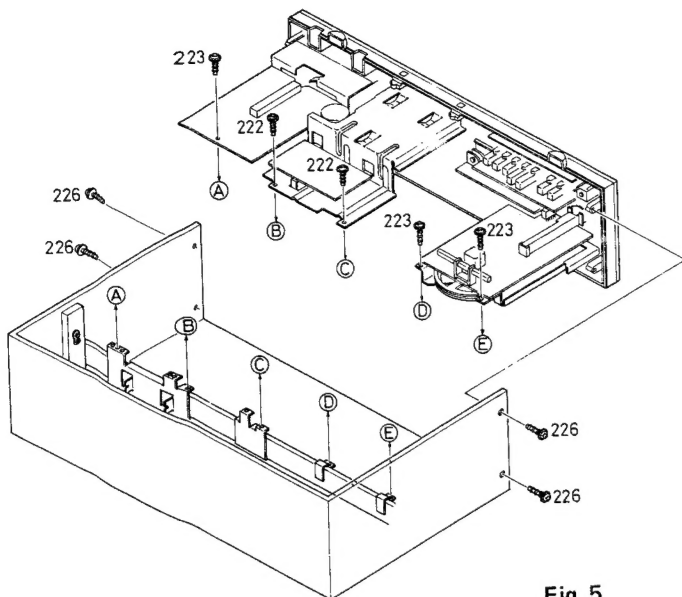

Fig. 5
5. When the back cover is opened, almost the entire face and back of the printed circuit board will be disclosed and visible enough for repairing and checking service. But a wider view can be obtained by removing the cabinet, of which procedure is described below. (See Fig. 5.)